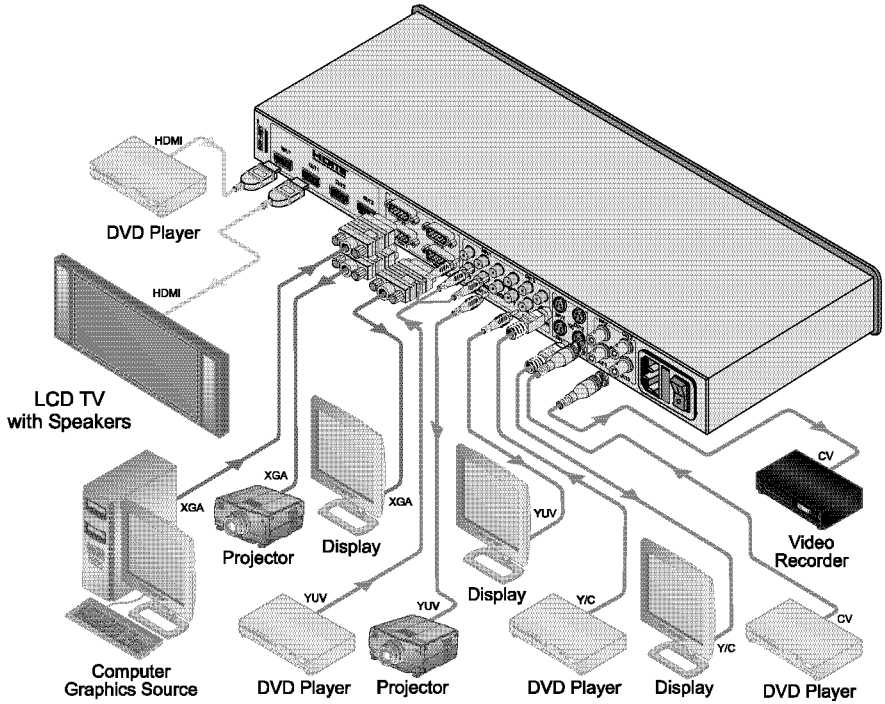

Figure 2: Connecting the VM-73 Multiformat 1:3 Distribution Amplifier
To connect the **VM-73**, as shown in the example in Figure 2, do the following¹:
11. Connect the power cord to the mains electricity (not shown in Figure 2).